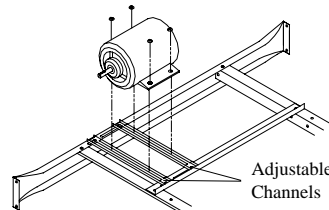

Fig. 1
- **Mount motor.** Slide the heads of the provided carriage bolts into the slots of the adjustable channels. Slide these channels sideways in the slotted holes to align with the holes in the motor base and to align the motor shaft with the blower pulley. Mount the motor to the motor mount using these carriage bolts and the washers and nuts provided (see Fig. 1). Make sure all bolts are securely tightened.